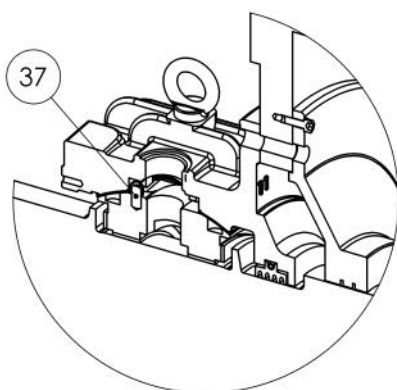

Fig. 37
- The positioning pin (37) in the upper half of the shell fits in the corresponding slot in the upper housing (Fig. 37).
- Tighten the cover screws (5) by hand.
- Tighten the flange screws (39) to the following torques specified.
- The cover screws (5) should now be tightened crosswise to the torques specified.